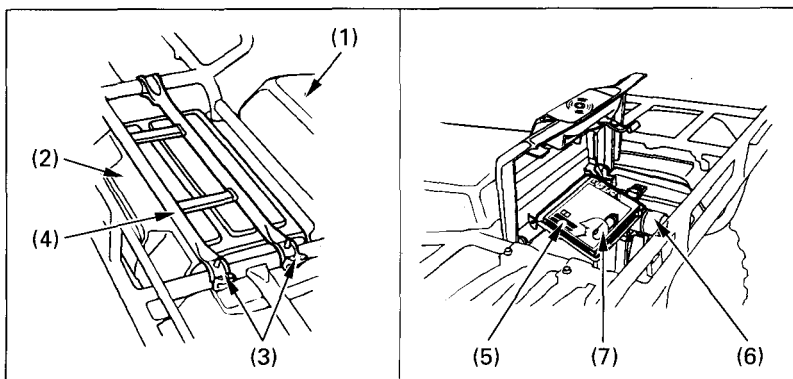

Fig. 2-23 (1) Seat
The storage compartment (Fig. 2-23) is behind the seat. To open the compartment, unhook the rubber straps (3) and lift the rear rack (4). The owner's manual (5), tool kit (6), and air pressure gauge (7) should be stored in the storage compartment (2).